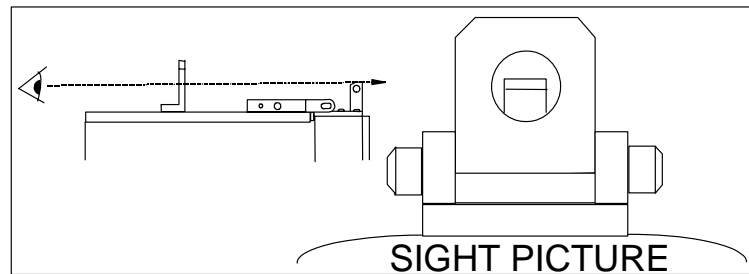

Figure 3-29
- k. Aim the beacon using the gunsights built into the lift eye and hinge, as shown in Figure 3-29. On long ranges, use an observer in a boat to ensure that the brightest part of the beam is on the channel centerline. A Southfinder may be used to establish aim if the range bearing is known.